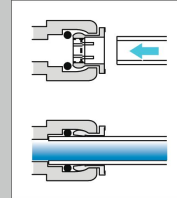

Fig 2
- Using the tube supplied, firmly push one end securely into the water connector (fig 2)